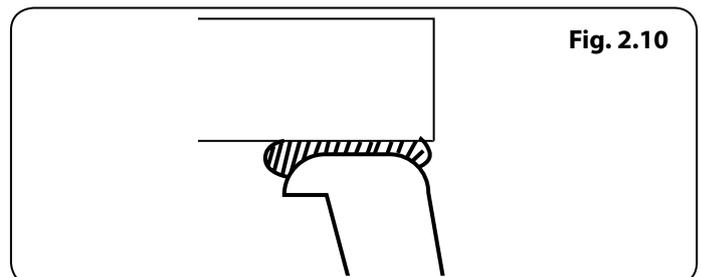

Fig. 2.10
**Note:** If the cut out is adjusted to either overhang or set back from the sink rim, sufficient surface area must be left to allow a water tight seal (**Fig. 2.10**).